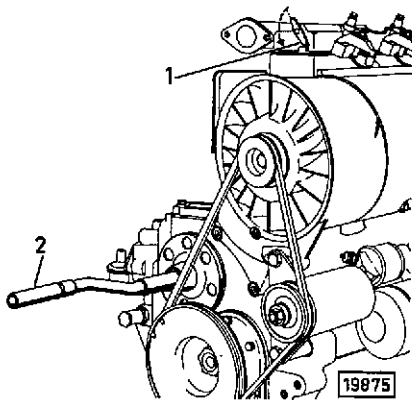

Fig. 5
3. Move decompression lever 1 (Fig. 5) in the direction of the arrow up to the stop.
4. Now turn starting handle 2 (Fig. 5) briskly until after about six turns the decompression is shut off automatically and the engine starts to fire.